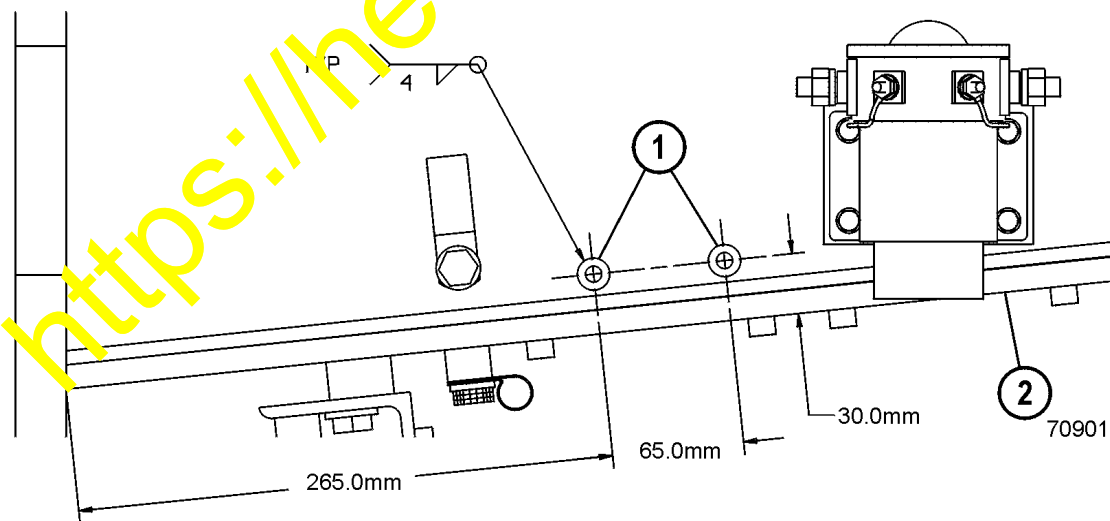

FIGURE 2. NEW SEAT LOCATION
3. Weld two seats (1, Figure 2) to the truck as shown.
2. Mount a second relay near the first relay as shown in Figure 2.